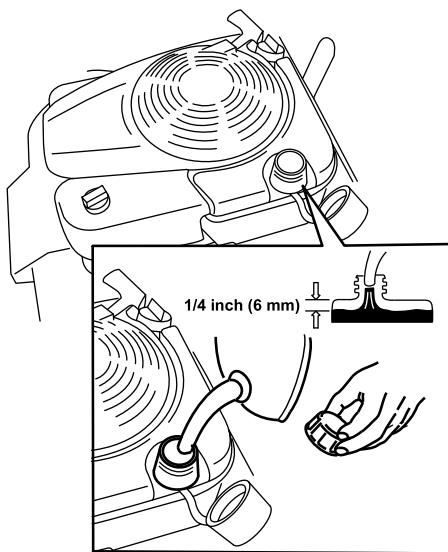

Figure 11
1. Clean around the fuel tank cap, and remove the cap from the tank (Figure 11).
2. Fill the fuel tank, leaving at least 6 mm (1/4 inch) from the bottom of the neck empty to allow the gasoline room to expand (Figure 11).